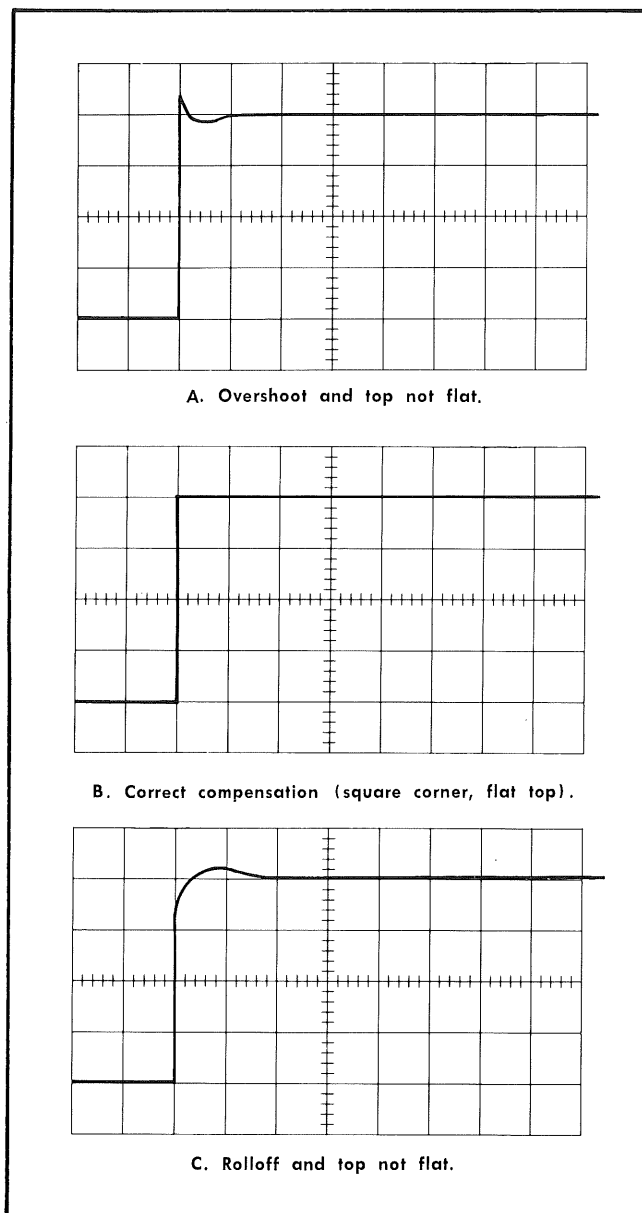
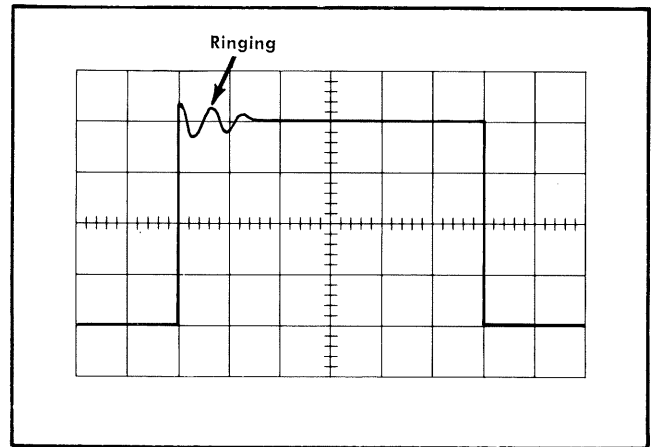

Fig. 2-6. Typical waveforms showing correct and incorrect compensation adjustments.
Fig. 2-8. Typical waveform showing ringing at front corner.
**Compensation.** The compensation of an AC-voltage divider such as is used in the input attenuator of an oscilloscope or a passive attenuator probe, can be checked by observing its response when a square-wave signal is applied. Correct response is shown by optimum square corner on the displayed waveform. If the waveform has spike, rolloff or front-corner rounding, the system is not correctly compensated. Fig. 2-6 shows typical waveforms illustrating correct and incorrect compensation adjustments.
**High-Frequency Response.** Incorrect high-frequency response will be shown by aberrations at the front corner of the square wave. Ringing indicates incorrect peaking adjustments. Overshoot and roll-off indicate incorrect capacitive compensation. Fig. 2-8 shows these effects on a typical waveform (see Fig. 2-6 for effect of compensation).